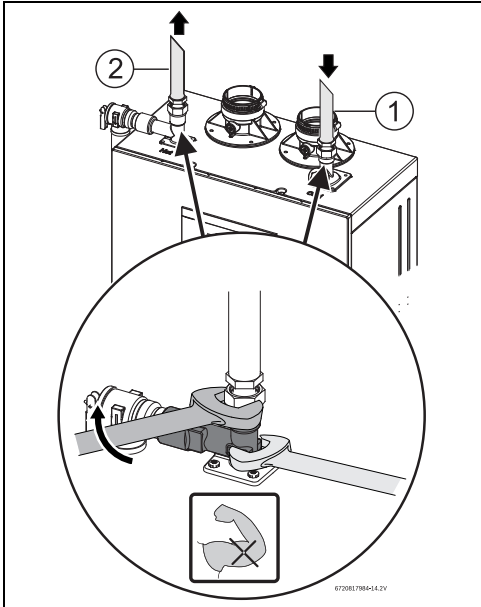

Fig. 28
- ▶ Tighten all water connections with the support of a wrench, see fig. 28.